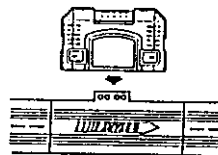

Figure 4
3. Plug the radio-control receiver into the power intake track as Figure 4, then plug the adaptor socket in the radio-control receiver as Figure 5.